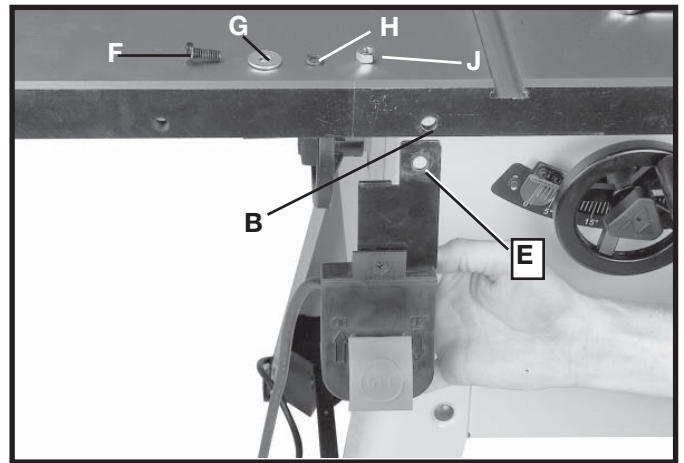

Fig. 54
Insert a 3/8-16x 1½" Flat Head Screw (F) Fig. 54, through hole (B) in the front the saw table and then through the hole (E) in the switch bracket. Place a 3/8" Flat Washer (G), then a 3/8" Lockwasher (H), onto the screw (F). Then thread a 3/8-16 Hex Nut (J) onto the screw and tighten securely.